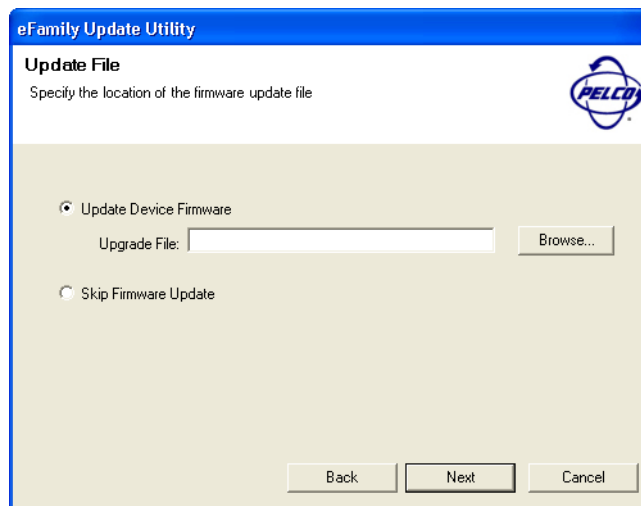

Figure A-8: Example Use Of Path To Upgrade File Screen
3. **The eFamily Update Utility file will have an .iti or .xml extension. Use the “Browse...” button to navigate to the file and open it. Refer to Figures A-8 and A-9.**